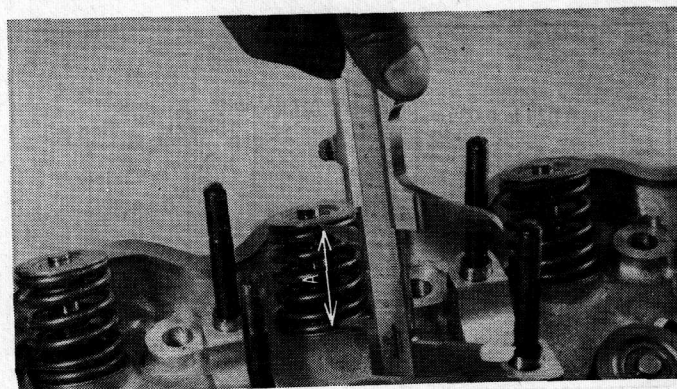

Fig. 49 Checking the Length of Spring in Use
(2) Check the valve seat ring sinkage. If the sinkage exceeds the service limit, replace the ring with a next oversize part by the following procedure. (Fig. 49)